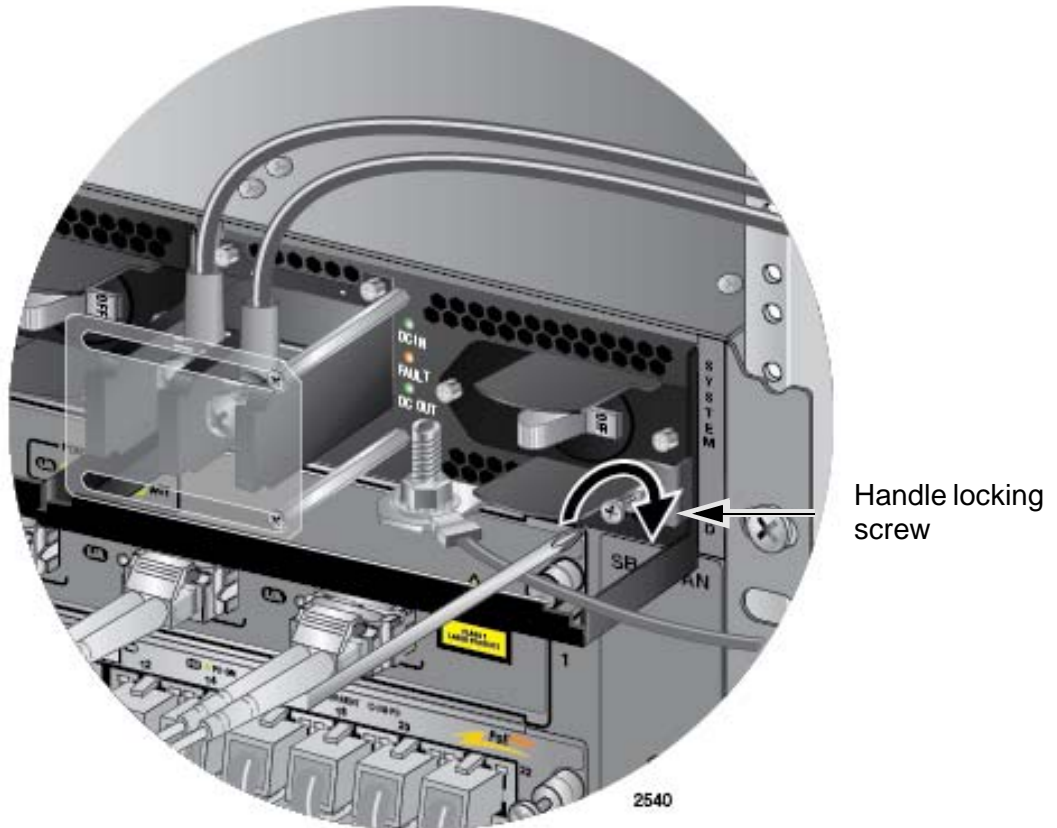

Figure 141. Tightening the Handle Locking Screw
9. With a #2 Phillips-head screwdriver, tighten the handle locking screw to secure the power supply to the chassis. See Figure 141 on page 207.
8. With a #2 Phillips-head screwdriver, tighten the handle locking screw to secure the power supply to the chassis. See Figure 141 on page 207.